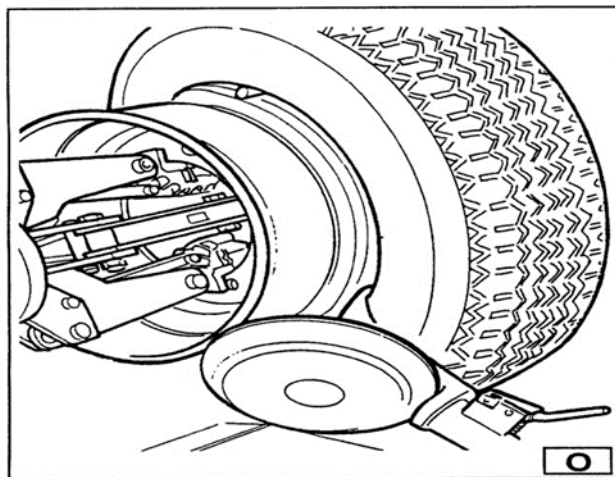

Fig 15
- 4) Move the tool forward until the red reference dot is lined up with the outside edge of the rim and about 5 mm from it (Fig 15).